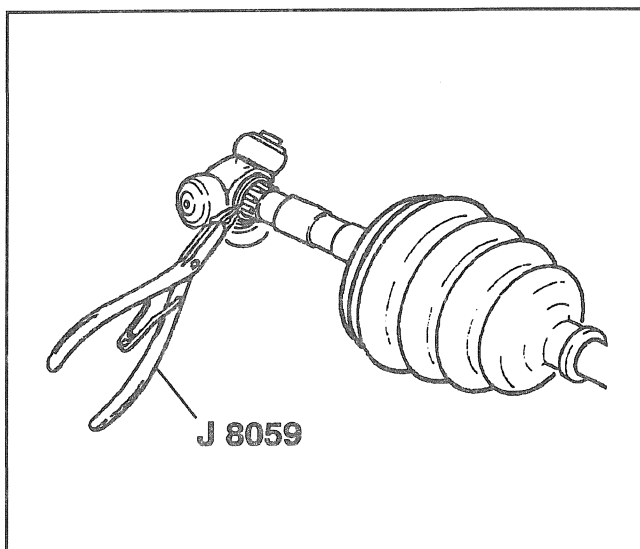

Figure 63—Installing Spider Assembly
3. Spacer ring on the front axle shaft and beyond the second groove as shown (Figure 63).
5. Slide the tripot spider towards the end of the shaft and reseat the spacer ring in the groove on the axle (Figure 63).